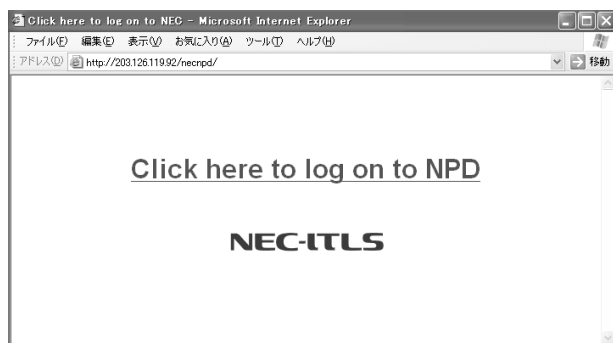

Fig. 1
1.2 After [NEC-ITLS] screen is displayed, click "Click here to log on to NPD". (Fig. 1)